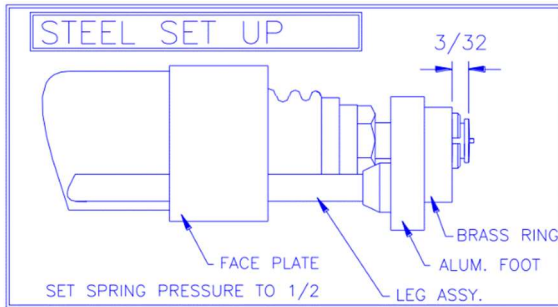

Fig. 6
- If you are welding mild (carbon) or stainless steel, the gun setup will be as shown in Fig. 6. First, follow the directions in Fig. 4. Then, fully insert the chuck into the gun and tighten the chuck-locking nut. Loosen the two legs by releasing the four set screws in the faceplate. Adjust the legs so that approximately 3/32 inch or 2.4mm of the fastener is visible beyond the brass ring. Tighten the four set screws in the legs. Finally, adjust the spring pressure at the slot screw in the rear of the gun. The pressure should be set to a negative number. With these steps completed, the gun setup is now finished.